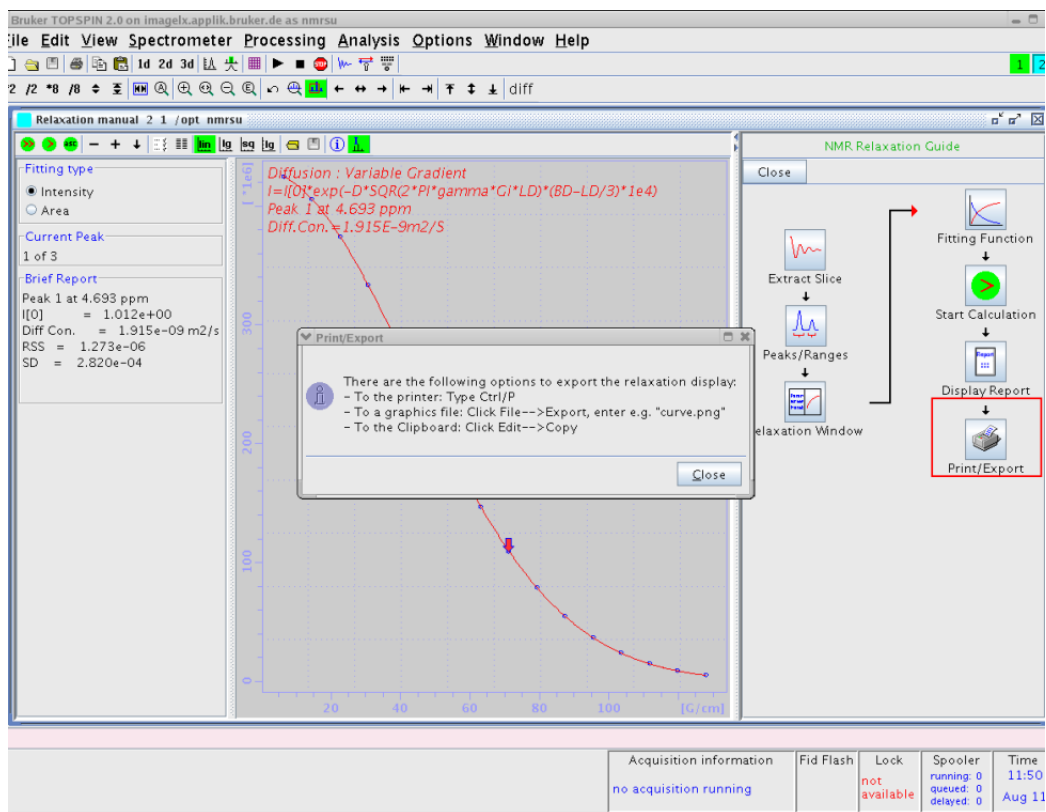

Figure 3.17 Print Options
- Click the Print Option button (see Figure 3.17). A list of print and export options will be shown.